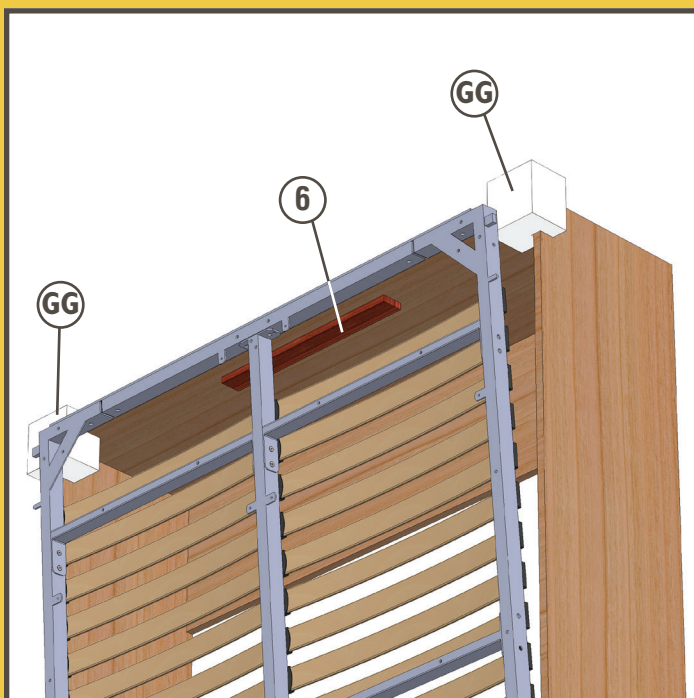

Fig. 14
5. Pull the top of the bed frame out beyond the front of the cabinet and install the Temporary Stops (GG) on the top corners of the cabinet. **Fig. 14.**
6. Position the Permanent Stop (6) where you want to install it. Make sure that it's centered and set back from the front edge far enough that the frame will be plumb when closed. Drill pilot holes and secure with three #8 x 1½" screws (not included). **Fig. 14.**